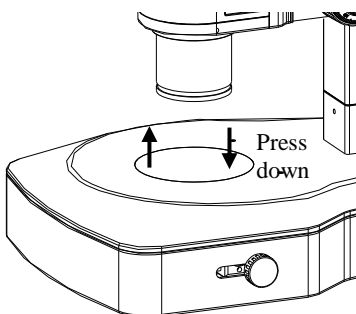

Fig. 9
- 2) To remove the worktable, use fingertip to press down the worktable nearby the pillar edge (as the arrowhead direction shown in Fig. 9), then the other end of worktable will turn up. (See Fig. 9)